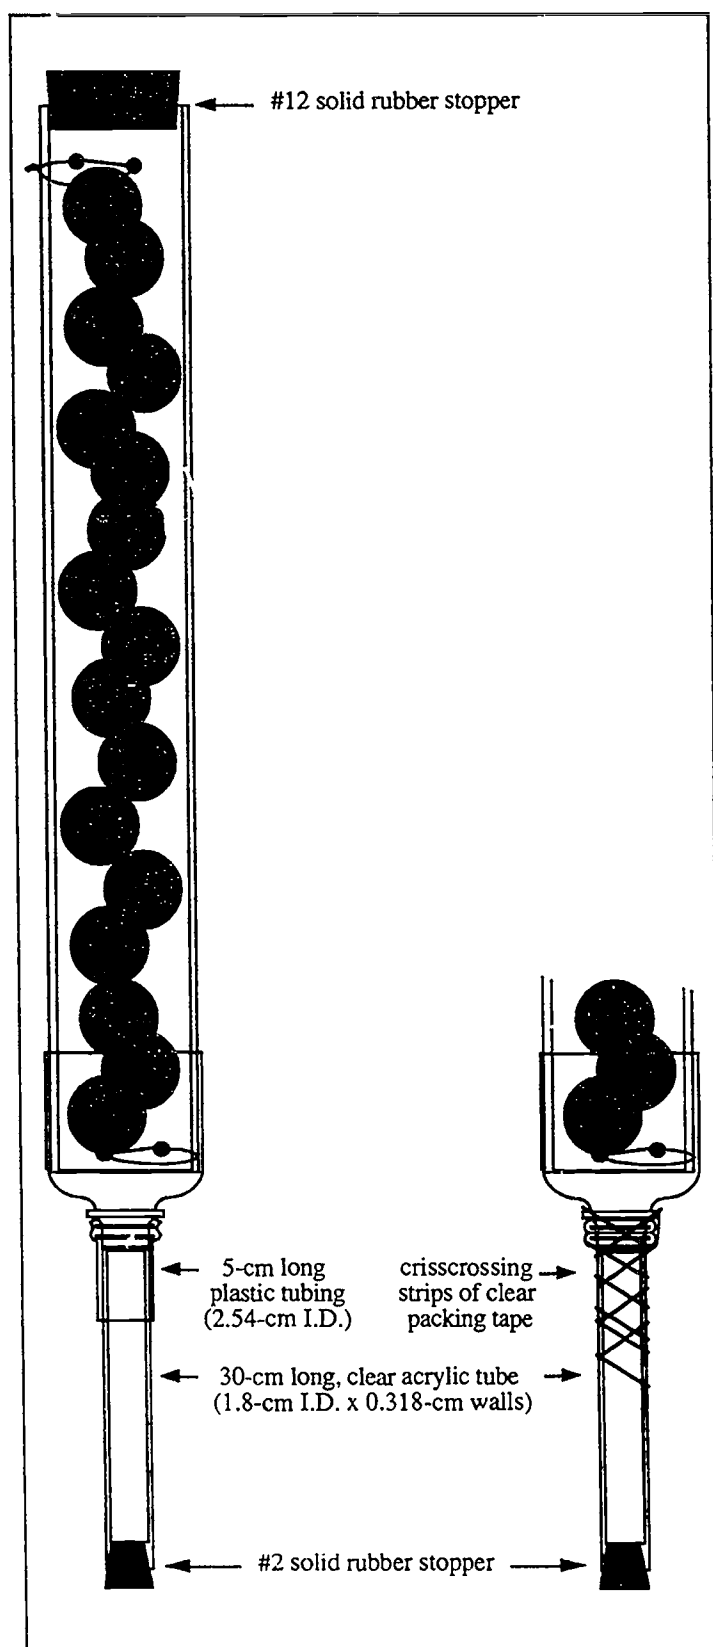

Fig. 5. Connecting the smaller acrylic tube to the bottle top.
b. *If using clear tape-strips:* Wrap them diagonally around the tube and the top of the soda bottle so that a crisscrossing pattern develops. The connection should be fairly rigid; if necessary, use extra tape to achieve this (see Figure 5).